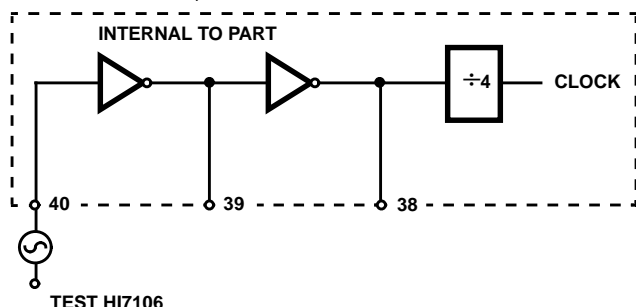

FIGURE 7A.
- Figure 7A. An external oscillator connected to pin 40.